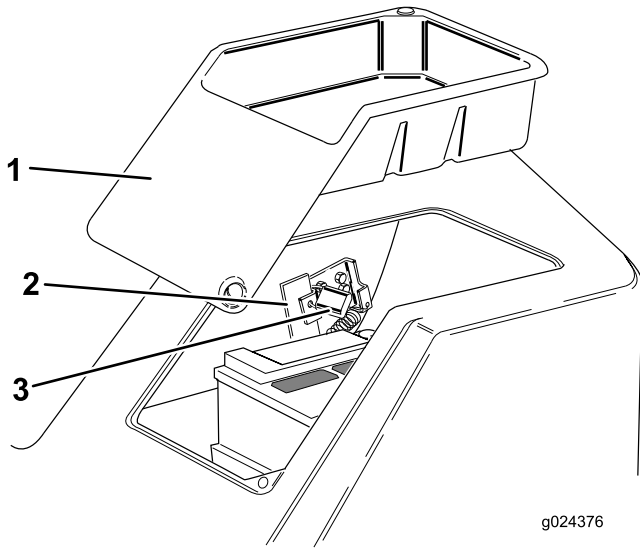

Figure 2
5. Remove the plastic tool tray from the LH side of the platform (Figure 2).
4. Install the plastic tool tray to the LH side of the platform (Figure 2).